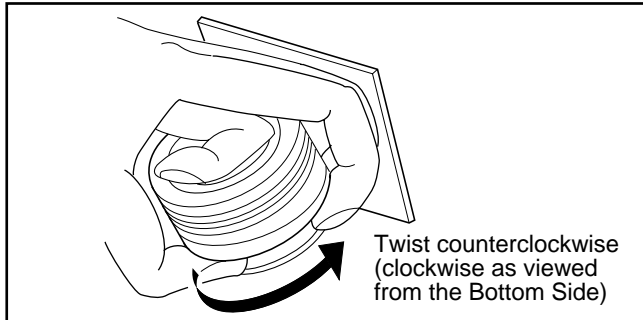

Fig. M5-2
1. Reinstall the Cylinder Unit so that the 2 projections on the Cylinder Base of chassis meet the 2 holes on the lower surface of the Cylinder. Then while twisting the D.D. Cylinder as shown in Fig. M5-2, fix it with 3 screws. Correct Cylinder position is necessary for tape transportation alignment.